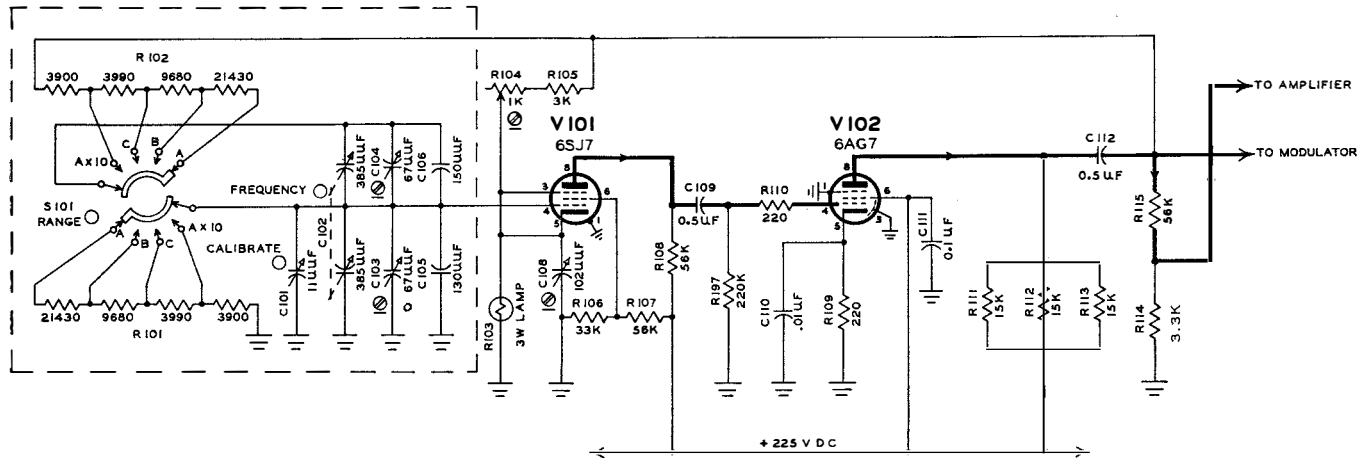

Figure 2-5. Complete Carrier Oscillator Circuit
d. COMPLETE OSCILLATOR CIRCUIT.— Fig. 2-5 shows the complete oscillator circuit used in this instrument. R-101 and R-102 are the frequency-determining resistors, each having four sections to accommodate the four ranges of the in-